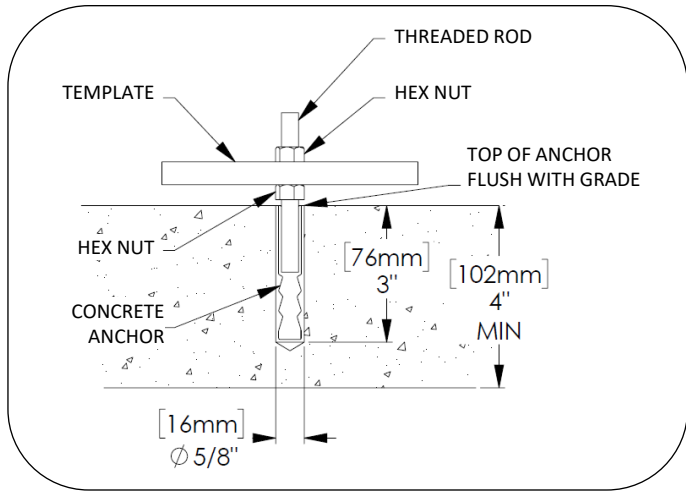

FIG. 1 – TEMPLATE/ANCHOR INSTALL
2. Drill holes according to Fig. 1.
4. Assemble the template, concrete anchor, hex nuts and threaded rods as shown in Fig. 1. Fully thread rod into concrete anchor.